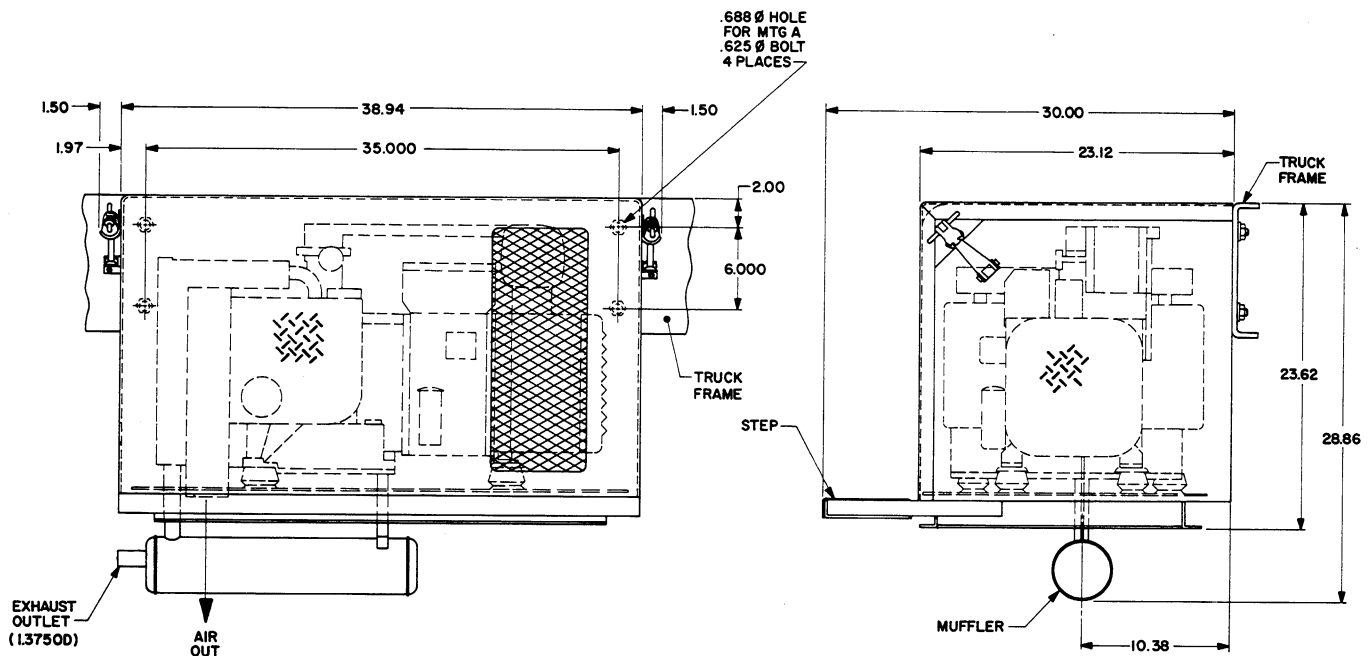

FIGURE 2. SIDE-MOUNTED COMPARTMENT INSTALLATION DIMENSIONS
- The physical size (primarily length) of generator compartment and mounting frame requires a MINIMUM, UNOBSTRUCTED OPEN SPACE of 39 inches (lengthwise) along the truck frame rail. Measure along the frame rail in the desired mounting location to verify this space is available. Allowances can be made for existing bolts in this area that could interfere with the rear wall of the compartment by punching relief holes. See Figure 2 for minimum compartment over-all installation dimensions.
1. Position the entire compartment mounting frame in place against the truck frame rail and check for adequate clearance (compartment dimensions are shown in Figure 2). Top of compartment must be level with top of frame rail. Use appropriate jacking or blocking to temporarily support the compartment in place.